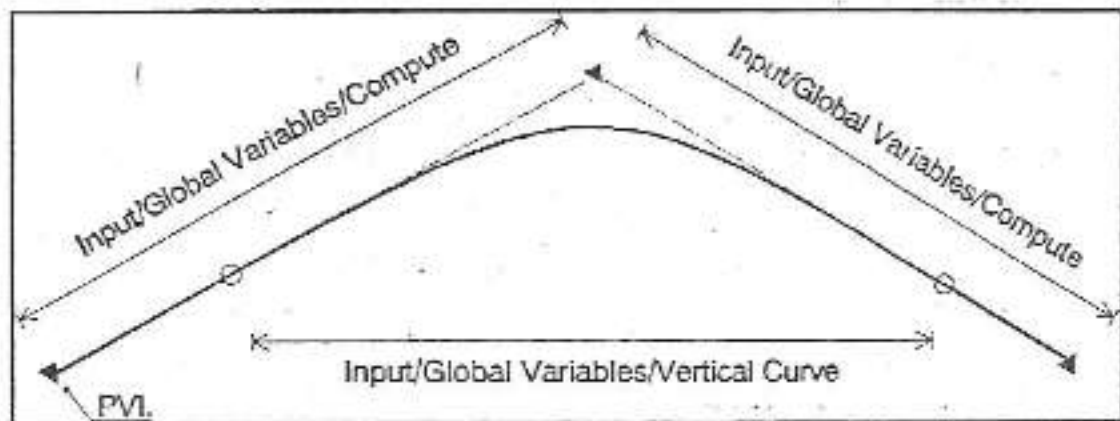

Figure 7.7 Vertical curve calculation.
- Enter the required vertical curve data, then click OK button or press Enter. The program will calculate and will overwrite the values between the two tangent points of the vertical curve. See figure 7.7